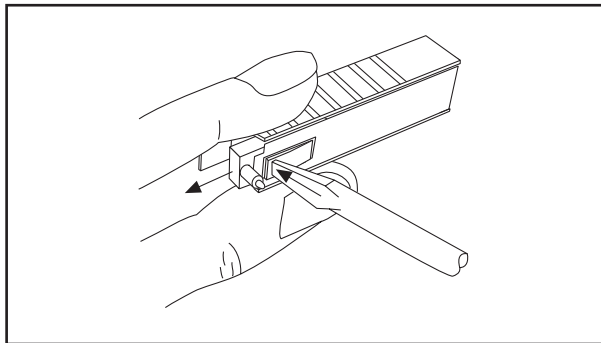

Figure 2-12. Pen Removal
3. With a screwdriver in one hand, push on the rectangular area of the pen shown in Figure 2-12. Using the other hand, release the pen from the spring clip attached to the pen holder.